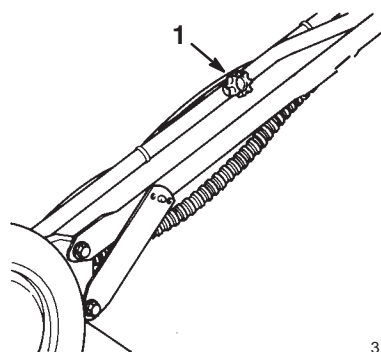

Figure 2
2. Install the upper handle onto the lower handle using the two knobs (they come loose with the lawn mower) on the left and right side of the handle as shown in Figure 2.